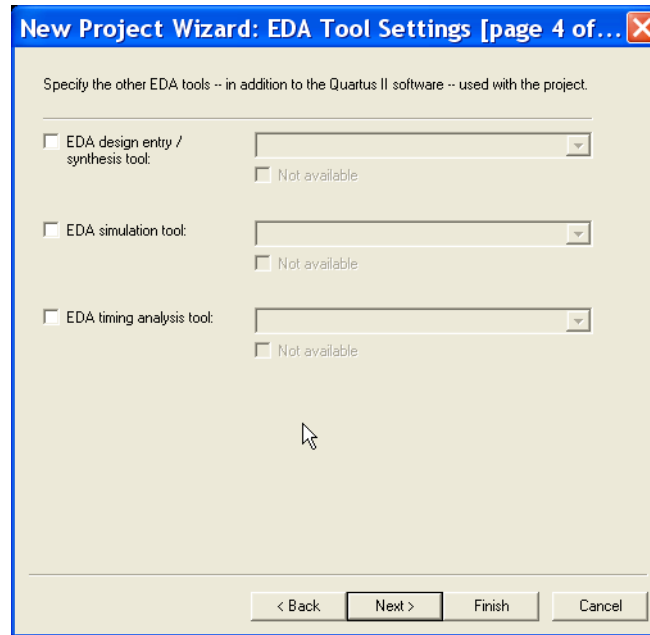

Figure 9. Other EDA tools can be specified.
4. We have to specify the type of device in which the designed circuit will be implemented. Choose Cyclone™ II as the target device family. We can let Quartus II software select a specific device in the family, or we can choose the device explicitly. We will take the latter approach. From the list of available devices, choose the device called EP2C35F672C6 which is the FPGA used on Altera's DE2 board. Press **Next**, which opens the window in Figure 9.